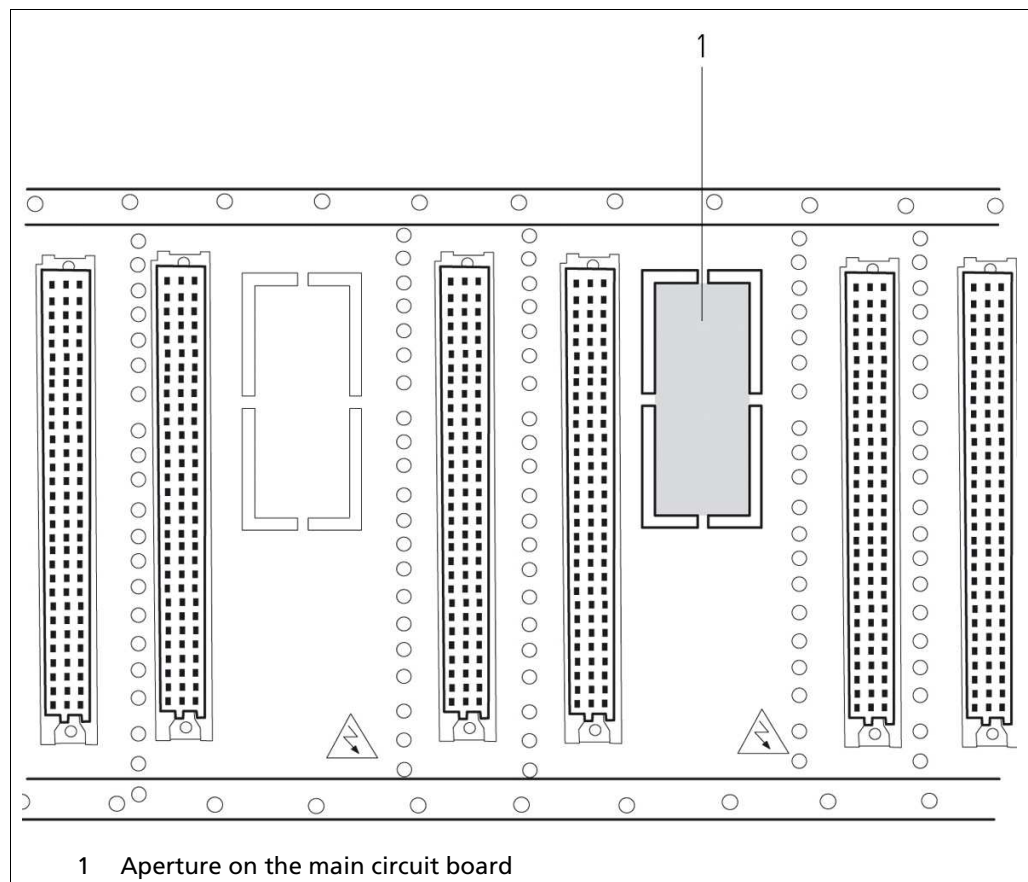

Fig. 80 EVU LB 452, main circuit board
5. Remove the metal cover on the rear side of the housing (Fig. 80, Pos. 1). The cover is already punched out and is held at three points. Loosen the hold points with light pressure (e.g. with a screw driver).